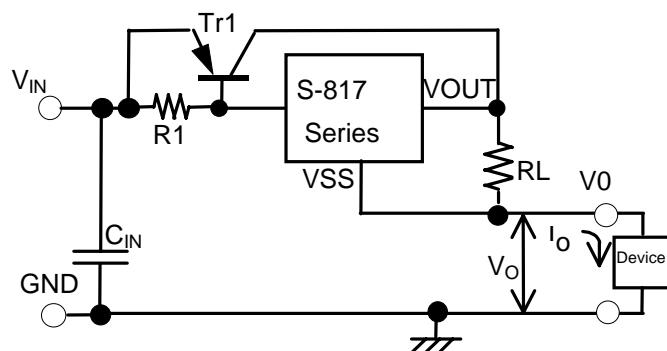

Figure 9 Constant Current Circuit
The S-817 Series can be configured as a constant current circuit. See Figure 9. Constant amperage  $I_o$  is calculated using the following equation
Please note that it is impossible to set constant amperage  $I_o$  in case of circuit (1) of Figure 9 to the value exceeding the drive ability of the S-817.
However, circuit (2) of Figure 9 is an example to set constant amperage to the value exceeding the drive ability of the S-817. Circuit (2) incorporates a current boosting circuit. The maximum input voltage of the constant current circuit is the value obtained by adding 10 V to voltage  $V_O$  of the device. It is not recommended to attach a capacitor between the S-817 power source  $V_{IN}$  and  $V_{SS}$  pins or between output  $V_{OUT}$  and  $V_{SS}$  pins because rush current flows at powering on. An example of input voltage between  $V_{IN}$  and  $V_O$  in circuit (2) vs.  $I_o$  current characteristics